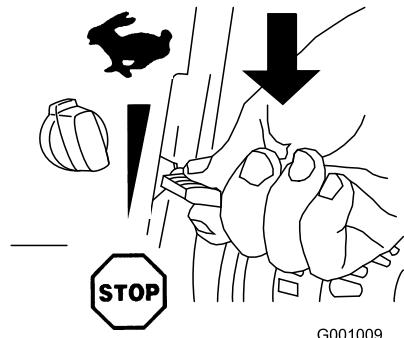

Figure 26
- Move the throttle to the Stop position (Figure 26).